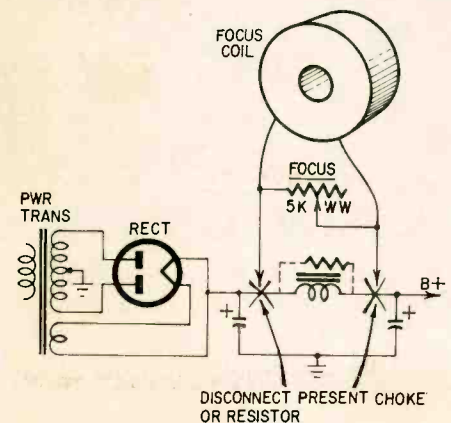

Fig. 3—To use magnetic-focus CRT instead of electrostatic tube, connect focus coil in place of filter choke or resistor. Pot across coil is focus control.
might even be worth while to try one of the magnetic-focus (PM) units, such as used on several old Philco's, etc., if you can find one. This should do the work. However, if it won't, get the focus coil, and connect it into your power supply circuit in place of the filter choke or resistor (See Fig. 3). You can shunt the coil with a heavy-duty wirewound potentiometer for focus control—about 5,000 ohms.